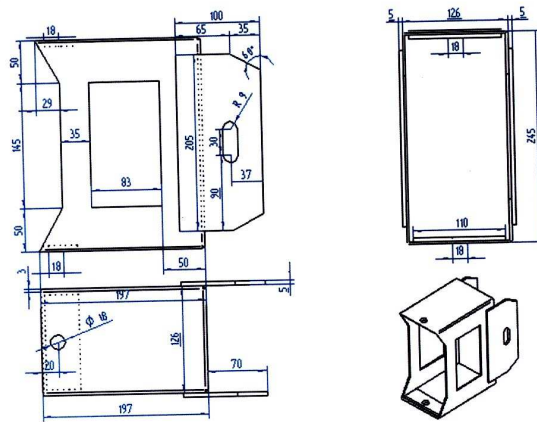

FIGURE 11 : SPACER FOR END TERMINAL
- STEEL SPACER BLOCK for END TERMINAL TEF 40, to be buried into the ground and bolted to the C 125 steel post. Figure 11